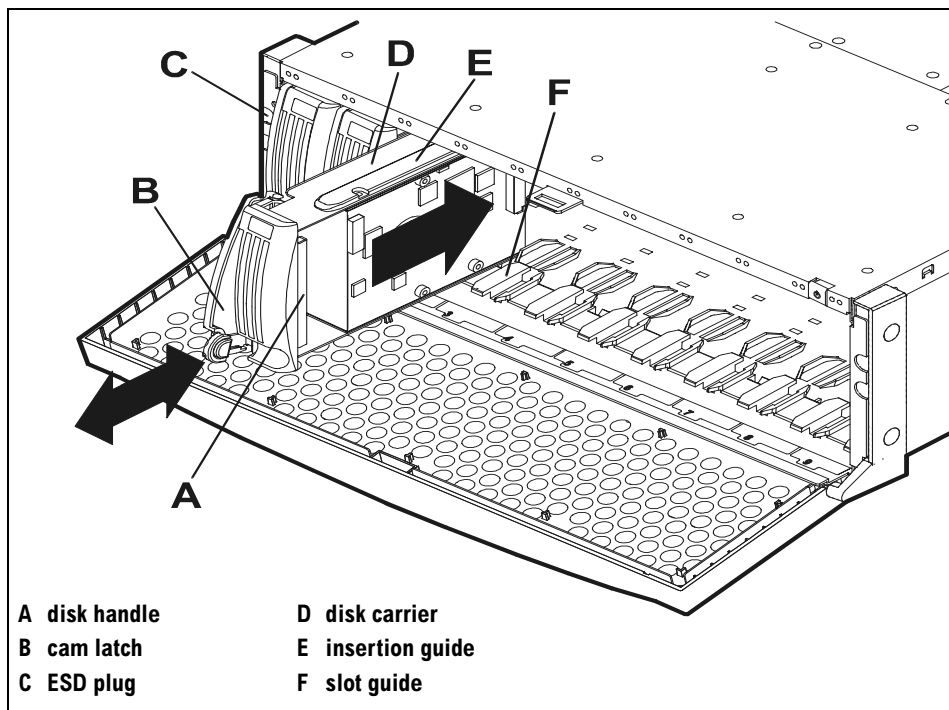

Figure 35 Disk Module Installation
Disks are fragile and ESD sensitive. Dropping one end of the disk module just two inches is enough to cause permanent damage. In addition, static electricity can destroy the magnetic properties of recording surfaces. Grip disk modules only by their handles (A in Figure 35) and carriers (D), and follow strict ESD procedures.
3. Attach your ESD strap to ground. An ESD plug-in (C in Figure 35) is provided on the front of the disk system.
5. Pull the cam latch (B in Figure 35) toward you.